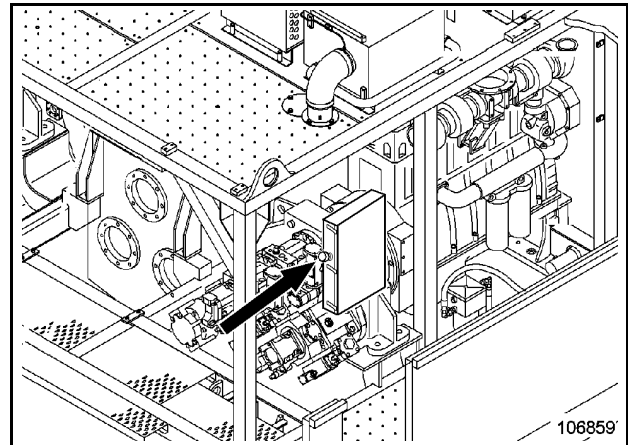

Fig. 2-31:
- by pressing the switch (red) on the drive regulators on the right-hand and on the left-hand side (Fig. 2-31:),